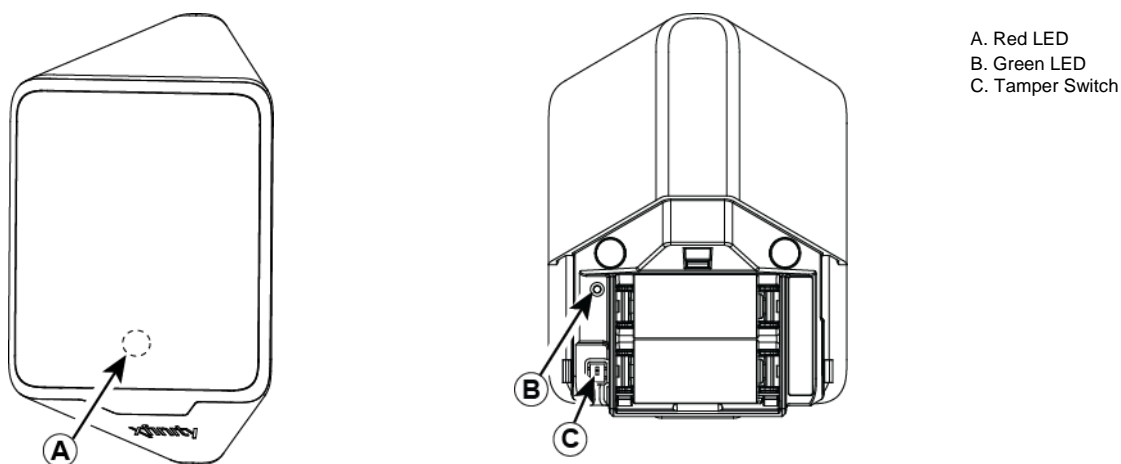

Figure 1 - MP-841
3. The green LED (see Figure 1) blinks 3 times every 5 seconds (repeated up to 20 times) to indicate that the detector is searching for the Touchscreen (control panel).